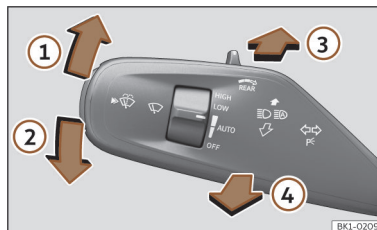

Fig. 94 Turn signal and main beam lever.
- From the base position, press the turn signal and main beam headlights lever forwards >>> Fig. 94 .
- **EITHER:** if main beam assist is on, pull the turn signal light and main beam headlights lever back >>> Fig. 94 .